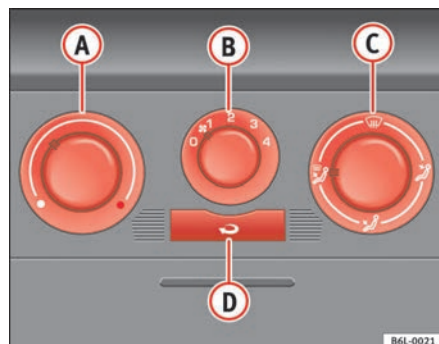

Fig. 87 On the dash panel: Heater controls
- Using the controls ⇒ fig. 87 **A** and **C** and with the switch **B** you can set the temperature, air distribution and the blower speed.